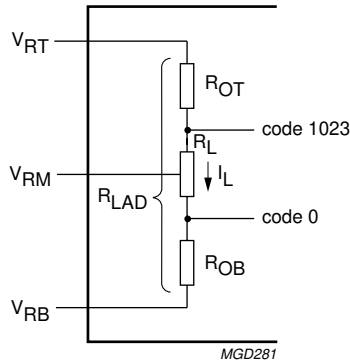

Fig.3 Converter reference resistor ladder.
- In order to ensure the optimum linearity performance of such converter architecture, the lower and upper extremities of the converter reference resistor ladder (corresponding to output codes 0 and 1023 respectively) are connected to pins  $V_{\text{RB}}$  and  $V_{\text{RT}}$  via offset resistors  $R_{\text{OB}}$  and  $R_{\text{OT}}$  as shown in Fig.3.